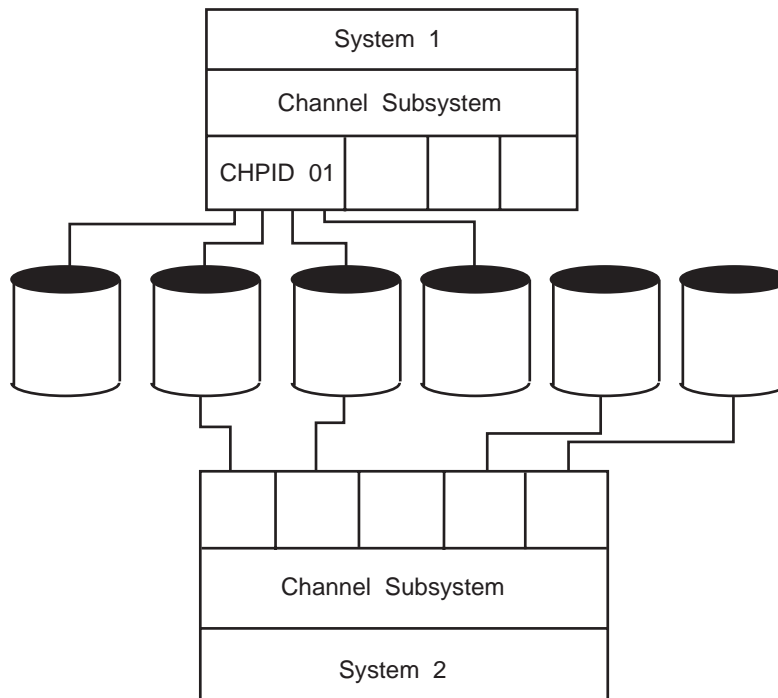

Figure 9-1. DASD Devices Shared Between Two Systems
- For a non-dynamic pathing device that does not support unconditional reserve, such as a 3330 Disk Storage, or for a reserved/assigned device with only one path, the system issues message IOS063E (or IOS062E) to request that the operator stop I/O to the shared devices (see Figure 9-1 on page 9-10 and the accompanying description). The system then tries to recover the channel path.
Figure 9-1 shows two DASD devices that are shared between two systems. When system 1 encounters a channel path error on channel path 01, indicated by message IOS063E (or IOS62E), the operator should stop I/O to the shared devices from system 2 to maintain data integrity during recovery of the channel path.